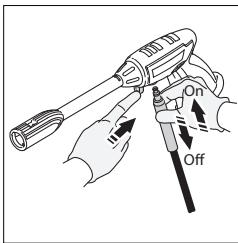

Fig. 4
- Connect the other end of the high pressure hose to the spray gun by inserting the silver metal tip of the high pressure hose into the fitting under the trigger guard. It will lock into the spray gun with a "click" (Fig. 4). Confirm the hose is locked into the spray gun by pulling slightly on the hose. The hose is now securely attached to the spray gun.
- To release the hose from the spray gun, press the thumb tab on the underside of the spray gun toward the trigger guard. The hose will slide out from the connection. (Fig. 4)